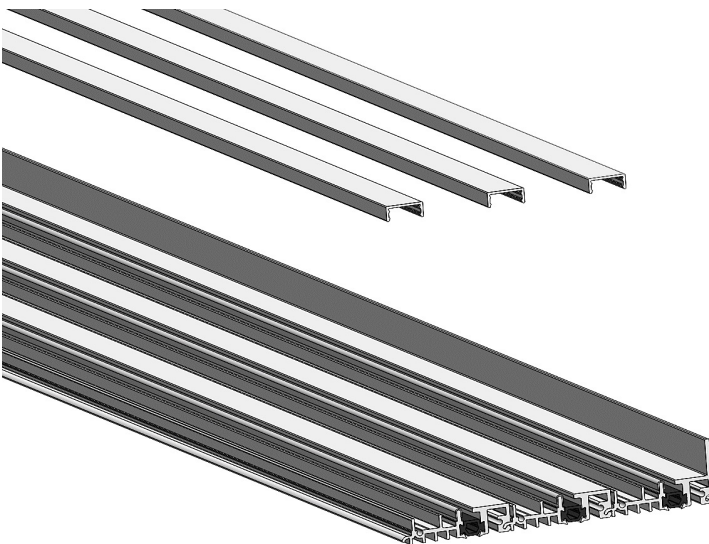

Figure 3
13. Set the sill assembly onto the bed of sealant and align sill with marks on the floor. Shim the sill assembly as required and secure the frame with adequate anchor screws for your application. Once the sill is anchored to the floor, verify that it is 100% flat and level in all directions. After verification, locate and apply all snap-in beauty covers to conceal anchor screws and create a flat surface for the panels to seal against. See **Figure 3**.